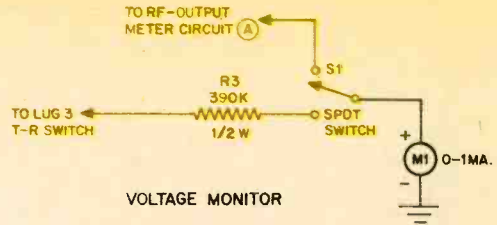

Fig. 4—Power-supply voltage-monitoring circuit requires S1 be added to the circuit in Fig. 3.
• **Power-Supply Voltage Monitoring.** Since power-supply voltage is an important indication of proper operation, add a switch and resistor (Fig. 4) to the previously installed circuit to monitor power-supply voltage in both the transmit and receive modes. The actual voltage is not really important, but a radical voltage change is a clue to trouble. Normally S1 is left in the voltage-monitor position. For tune-up, set S1 to the RF output position.
Fig. 4—Portion of code wheel shown in color was covered with tape and is the copper that remains after etching. Start at diameter line and work counterclockwise when marking and cutting code characters in tape. Remove the tape within the 4½-inch diameter inner circle.
Refer now to Fig. 4. To prepare the code characters, cover the outer edge of the wheel with black plastic electrical tape such as Scotch No. 33. But before you can notch the tape, you must determine how wide to make the code characters.